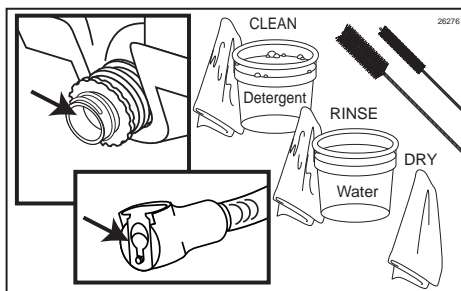

Figure 68
16. Brush and clean the outer surfaces of the syrup bag fitment and the Connector with detergent water, and a single service towel. Then rinse and dry the parts using clean water and single service towels. (See Figure 68.)